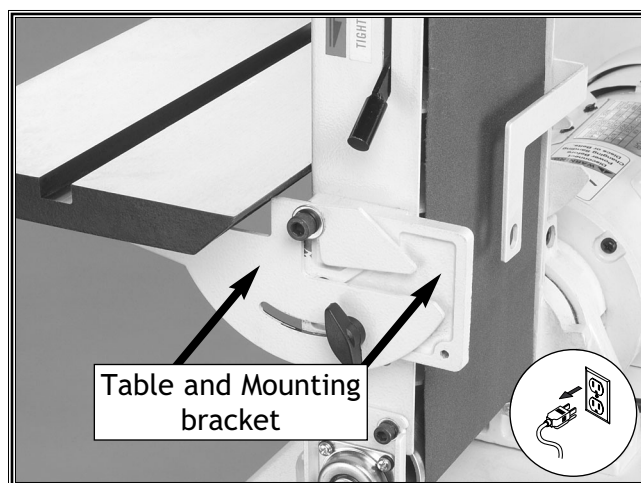

Figure 24. Table and mounting bracket.
3. Remove the table and mounting bracket from the belt sander (**Figure 24**).